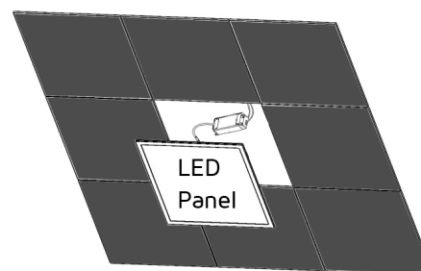

Fig.4a
Step 4: Move the LED Panel into the ceiling aperture and ensure the LED Panel is mounted securely, Fig.4a. Finally, turn on the mains supply to check the panel is working correctly, Fig.4b.